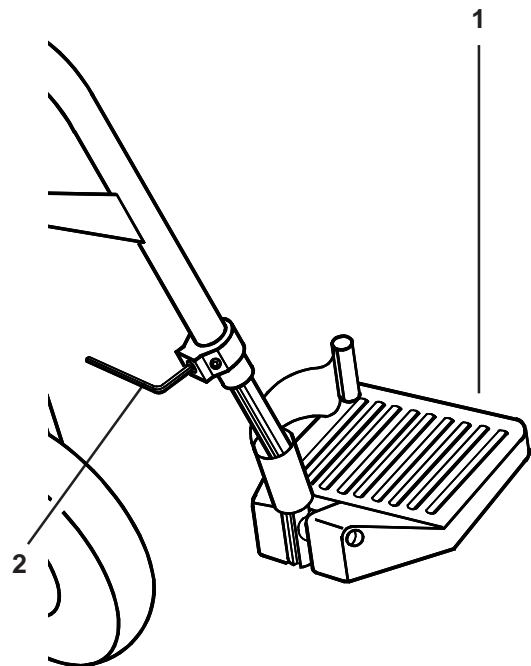

Fig. 19
To adjust the height (Fig. 19) of swing-away footplates (1), loosen the screw (2) using a 4mm Allen key located as shown, and set the footplate height to the required position. Tighten the screw to 5-8Nm torque setting.